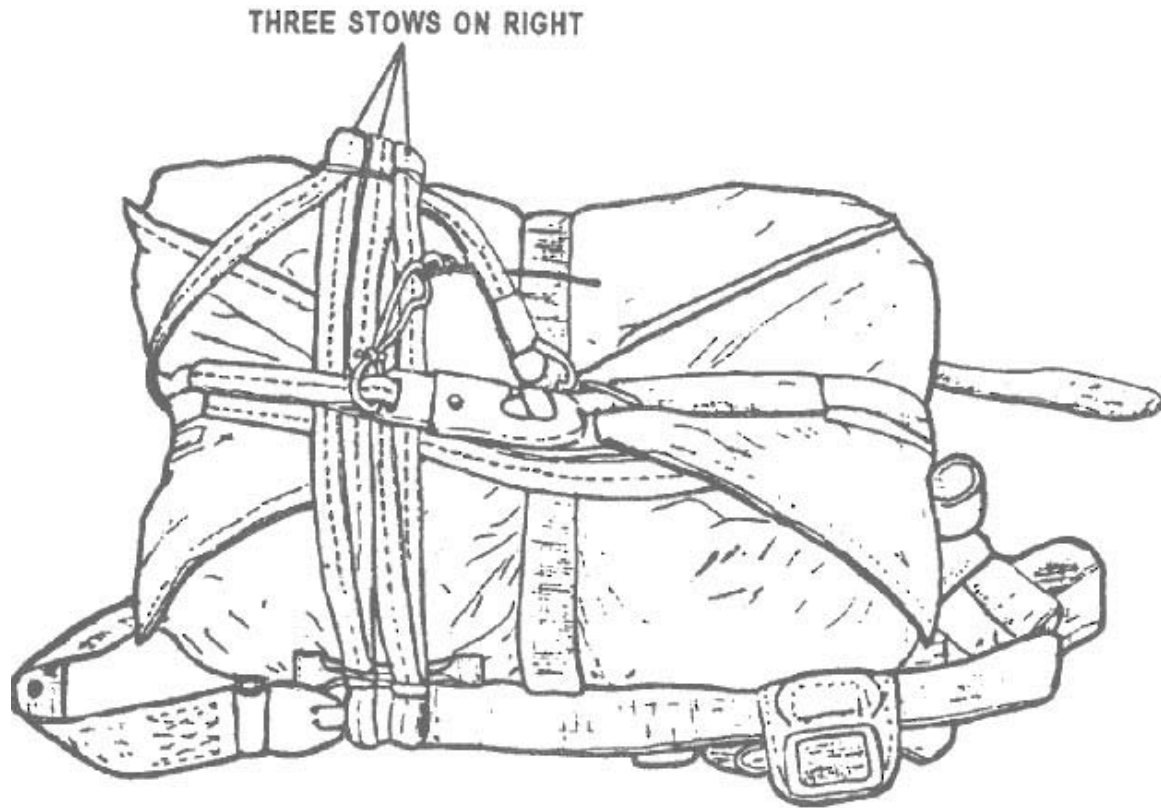

Figure 3-7
- 11. Stow the static line. (See Figure 3-7)